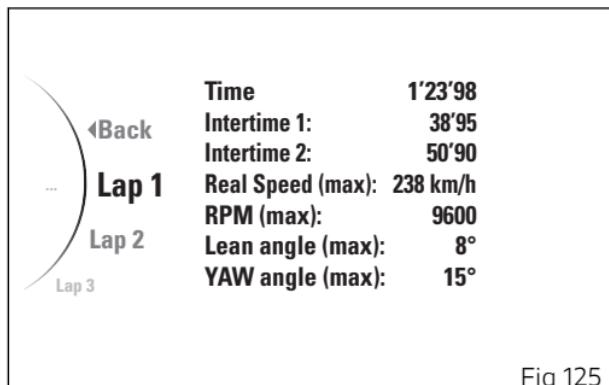

Fig 125
To view the LAPs memorised in one session, select the desired session and press the ENTER button (3). The display will show all the LAPs recorded in the selected session (Fig 125).